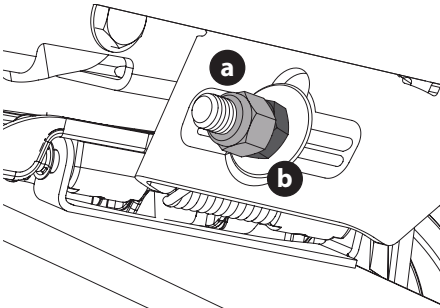

Figure 36
- To **raise** the front of the deck, remove the end cap, loosen the outer jam nut (a) then tighten (thread inward) the inner nut (b) against the front hanger bracket (Figure 36). When proper adjustment is achieved, re-tighten the outer jam nut (a) to 57 ft-lbs (77 N-m) and replace the end cap.
- To **lower** the front of the deck, remove the end cap, loosen the outer jam nut (a) then loosen (thread outward) the inner nut (b), away from the front hanger bracket (Figure 36). When proper adjustment is achieved, re-tighten the outer jam nut (a) to 57 ft-lbs (77 N-m) and replace the end cap.